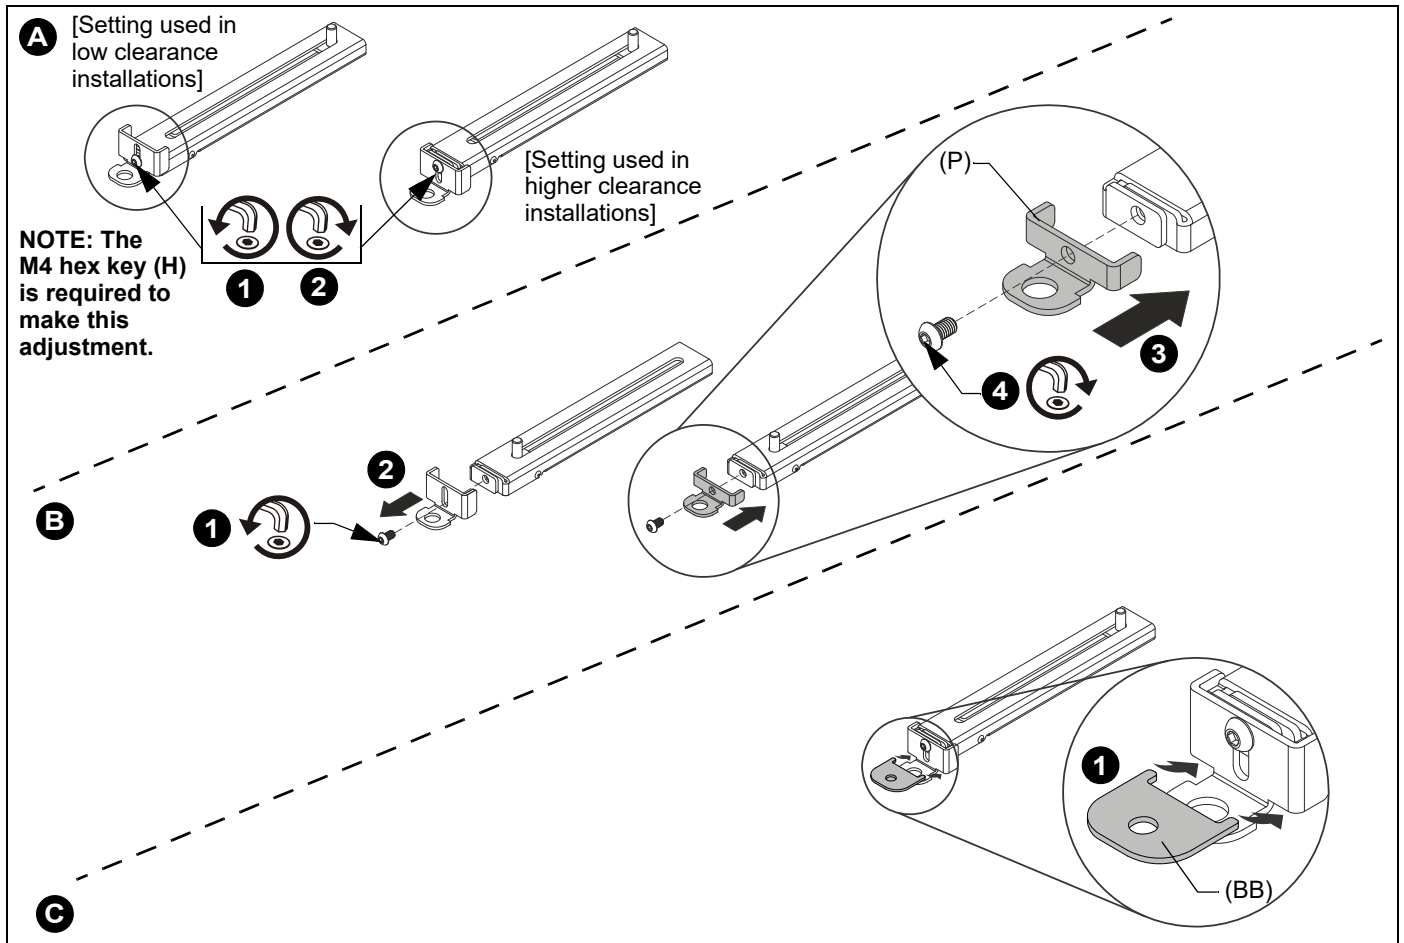

Figure 1
- **A** The height of the interface legs can be adjusted by loosening the button head screw at the end of the leg, adjusting leg height up or down, and tightening the button head screw at the required height. (See Figure 1)
- **B** The height of the interface legs (P) can be changed for low clearance installations by removing the foot and replacing it with the fixed foot (P). (See Figure 1)
- **C** The nested washer (BB) should be added to the installation when using M4, M5 or M6 attachment screws. (See Figure 1)
NOTE: The nested washer (BB) should be added to the installation when using M4, M5 or M6 attachment screws. (See Figure 1)